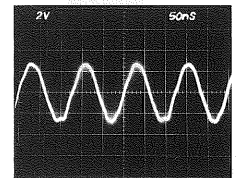

Fig. 4-12
- 1) Clock Generator Performance Checks (See Fig. 4.12) Connect an oscilloscope onto IC40 pin 1, and check to assure an 8 MHz signal to have been generated.